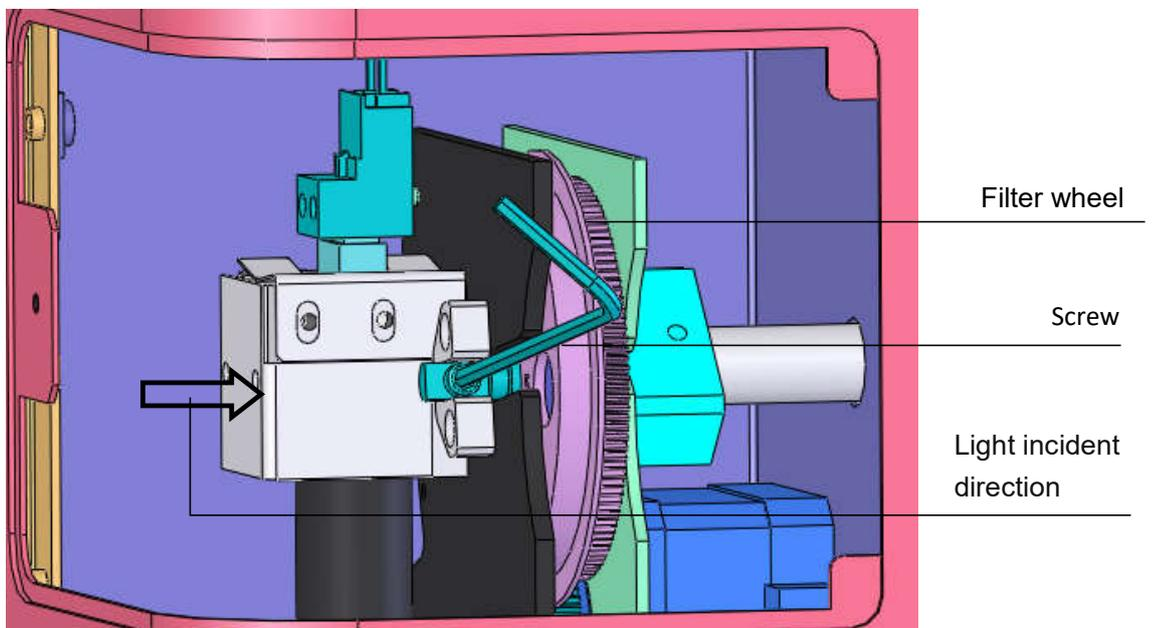

fig 57
- a. Loosen the knob to open the back door, take out the optical filter wheel by the equipped allen wrench(Fig 57).